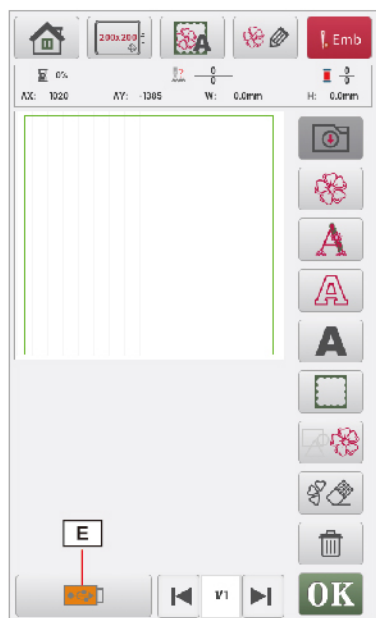

Figure 13
- (4) In Figure 13 interface, click E to enter Figure 14 interface. Then select patterns for editing and embroidery